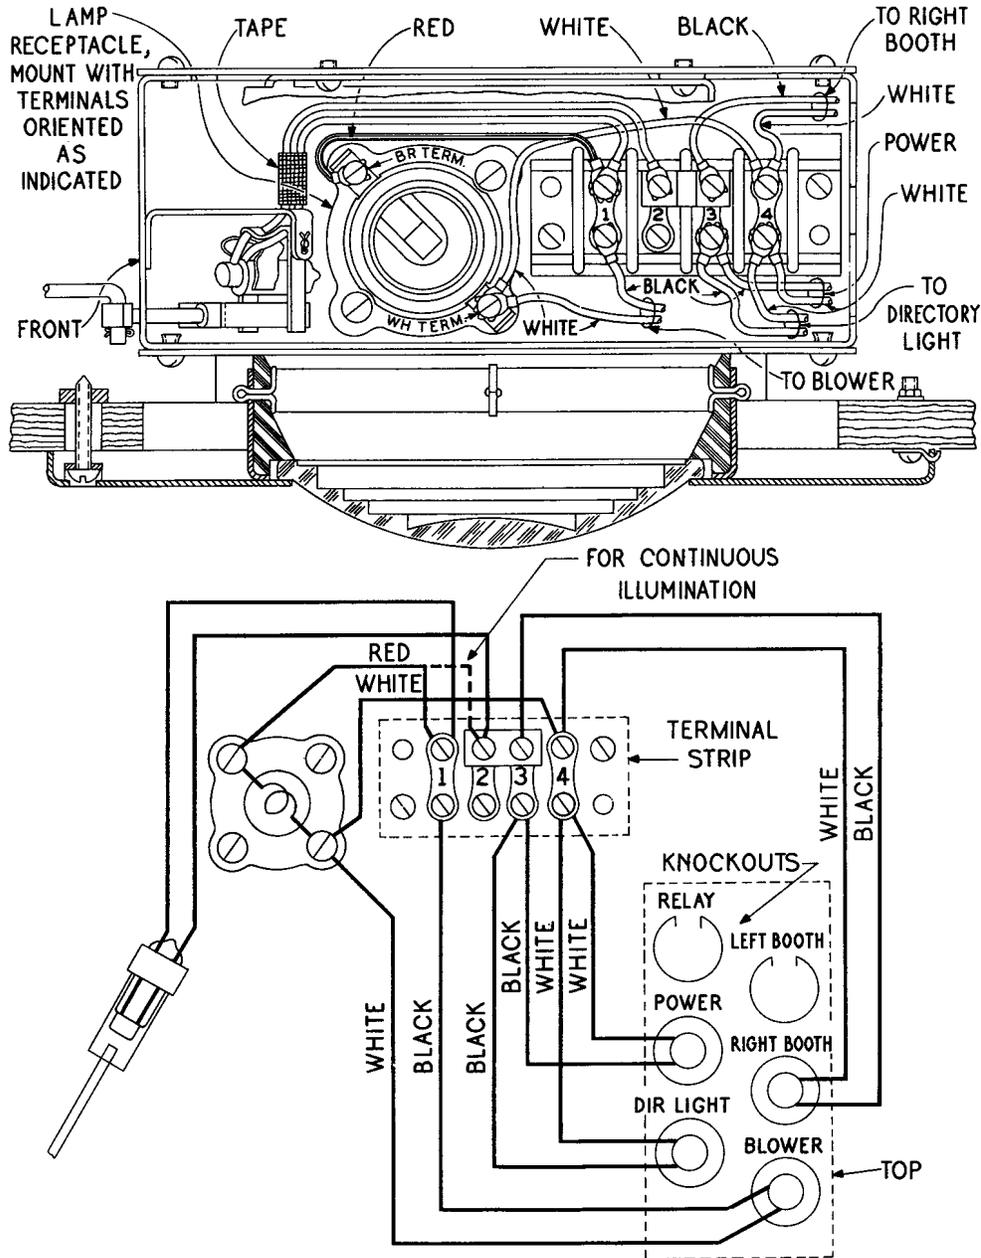

Fig. 9 — 4A Light Fixture for Four Cables
3.02 At the 4-type light fixture, make connections as shown in Fig. 9. Connect each cable shown only when required. Spade terminals shall be inserted squarely and to their full depth into the slot to provide maximum separation between terminals. The lamp is under control of the booth door. To obtain continuous illumination in the booth, connect red strap lead from lamp socket to terminal 2 instead of terminal 1 on the light fixture terminal strip.
4. Form the blower extension cable in the ceiling of the booth so that it rests in the notch of the metal ceiling partition, and drop the socket end of the twist-lock connector through the small opening in the corner of the booth ceiling. Connect the other end of the cable to the light fixture as shown in Fig. 9.
5. Connect the cable from the underside of the light fixture in accordance with Fig. 9.